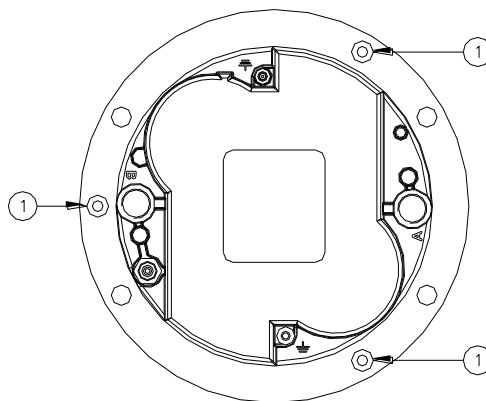

Figure 21 - Lower Cover Fixing Screws
- Open the fixture by unscrewing the three locking screws HSFH M5x10 (Figure 21 - n°1).
- three locking screws HSFH M5x10 (Figure 21 - n°1);
Verify the correct position of O-Ring between dome and lower cover (Figure 23 – n°2); mount the lower cover on the dome and fasten it by means the three screws HSFH M5x10 (Figure 21 - n°1). One drop of anaerobic adhesive lower type (e.g. LOXEAL 24-18) should be applied to the screws before installation; tightening torque is 2.5 Nm.